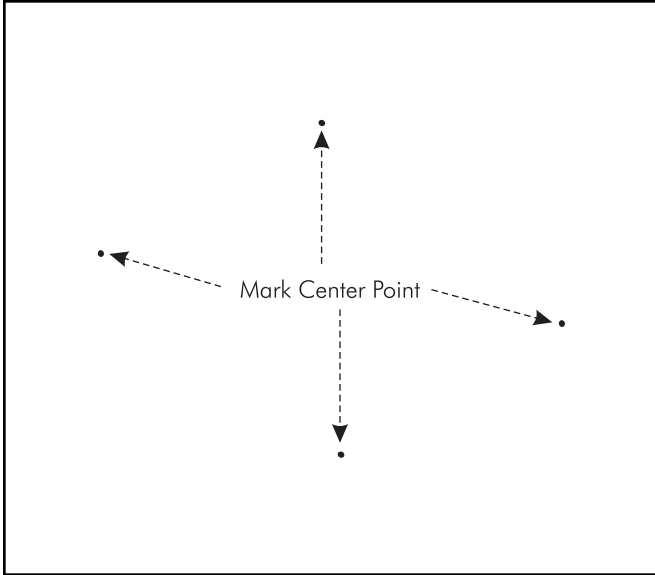

Figure 19. Mark the center points.
NOTE: Figures 19–24 illustrate the Fresco mounted in 4 different configurations.
- 3 Mark your wall with the center point for the wall bracket (see figure 19).